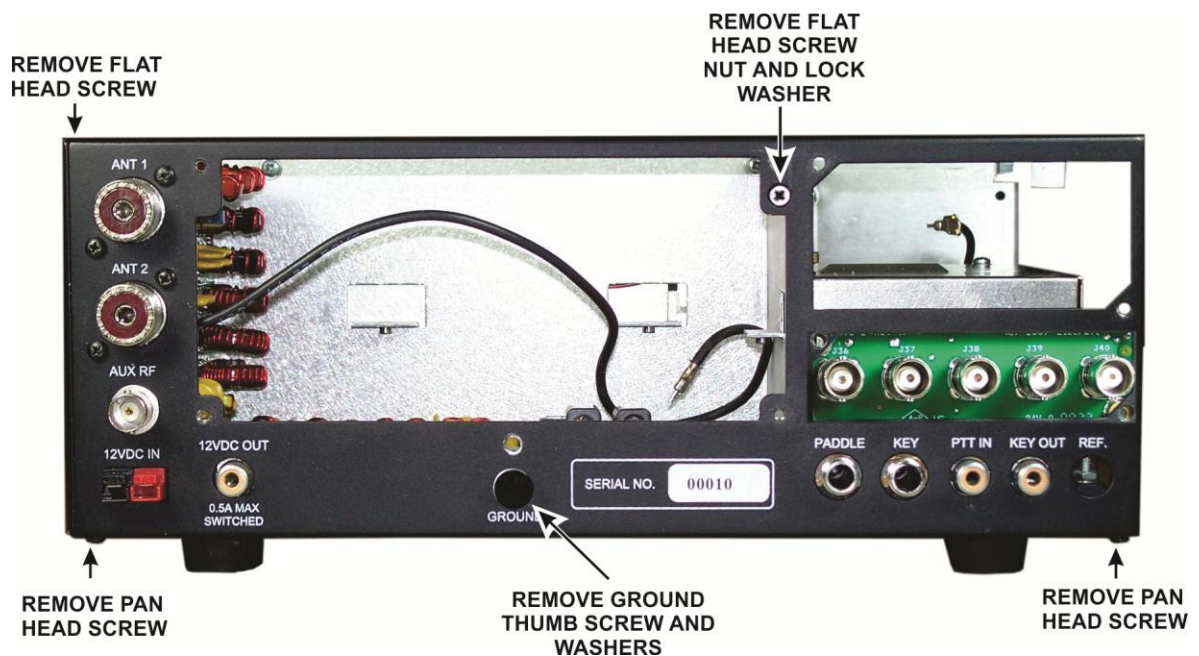

Figure 12. Removing the Rear Panel.
□ Remove the hardware shown in Figure 12 to free the rear panel and set it aside.
Replace the rear panel on the K3 (see Figure 12 on pg 7) using the hardware you removed earlier: